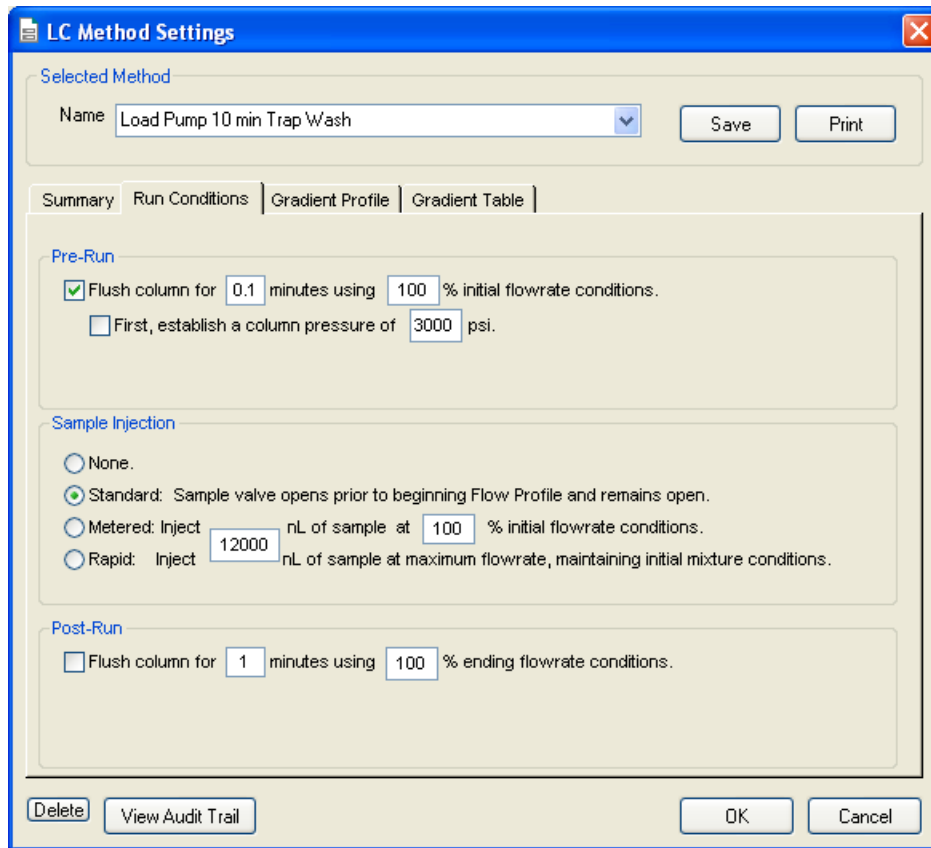

Figure 3-15 LC Method Settings dialog—Run Conditions tab
5. On the **Run Conditions** tab, specify conditions as shown in Figure 3-15.